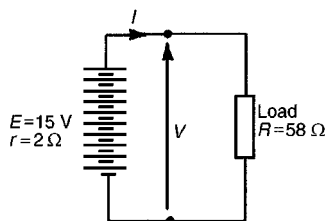

Figure 4.4
- (a) For ten cells, battery e.m.f., $E = 10 \times 1.5 = 15\text{ V}$, and the total internal resistance, $r = 10 \times 0.2 = 2\ \Omega$. When connected to a $58\ \Omega$ load the circuit is as shown in Fig. 4.4